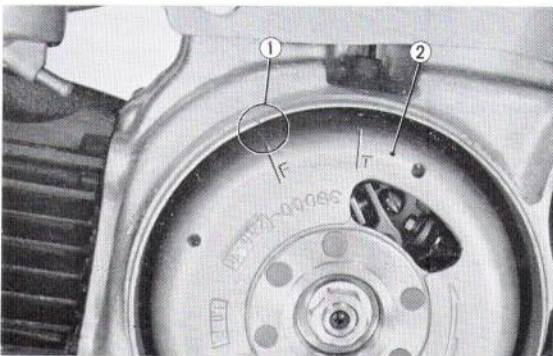

Fig. 1.10 ① Timing index mark ② Flywheel
1. Remove the dynamo cover and align the "F" mark on the flywheel with the timing index mark on the crankcase. In this position, check to make sure that the contact points are just about to open. (Fig. 1.10)